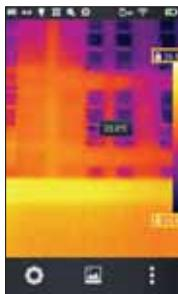
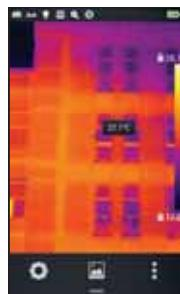

Fig.1
Fig.2
1. On the real-time imaging interface, click the temperature data area at top or bottom of the color palette (the yellow box area as shown in Fig. 1), to enter the “manual dimming mode”, and lock the dimming parameters (as shown in Fig. 2).